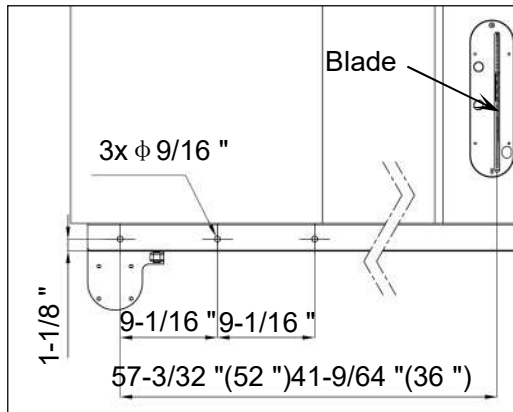
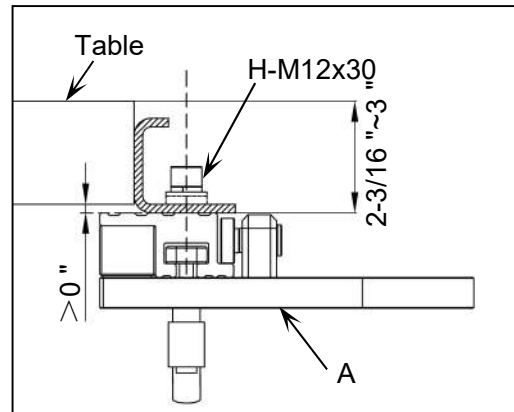

Fig. 6
Fig. 7
1. For “**Big Eye**” series rear rails: confirm the mounting holes on the rear rail align with the holes on the column mounting bracket. If necessary, drill installation holes according to the dimensions indicated in **Fig. 6**.
2. **For traditional “L”-type rear rails:** check whether the relevant dimensions meet the specifications shown in the installation side-view **Fig. 7**. If they comply, drill installation holes according to the dimensions in **Fig. 6**.